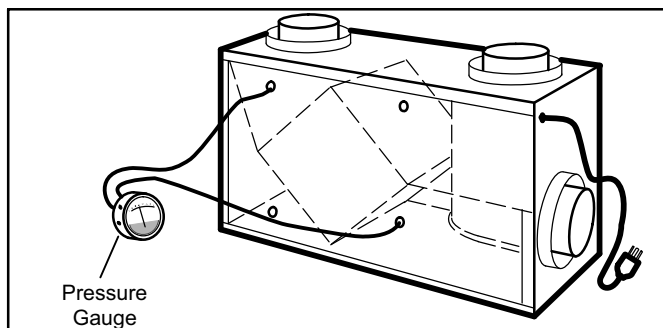

Figure 29. Measuring Fresh Air
4. Measure Fresh air – connect hoses to door ports (see figure 29); measure fresh air and record reading.